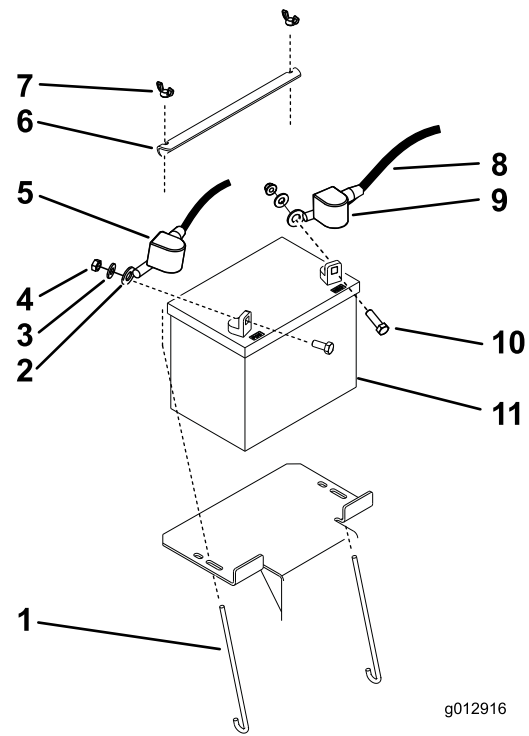

Figure 34
3. Remove the black rubber cover from the negative cable and disconnect the negative battery cable from the negative (-) battery terminal (Figure 34).
4. Slide the red terminal boot off the positive (+) battery terminal, and remove the positive battery cable (Figure 34).
5. Remove the battery hold-down plate and remove the battery (Figure 34).
1. Place the battery in the machine (Figure 34).
2. Secure the battery with the battery hold-down plate, j-bolts, and wing nuts (Figure 34).
3. Install the positive (red) battery cable to positive (+) battery terminal with a nut, washer, and bolt (Figure 34).
5. Install the negative battery cable and ground wire to the negative (-) battery terminal with a nut, washer, and bolt (Figure 34).